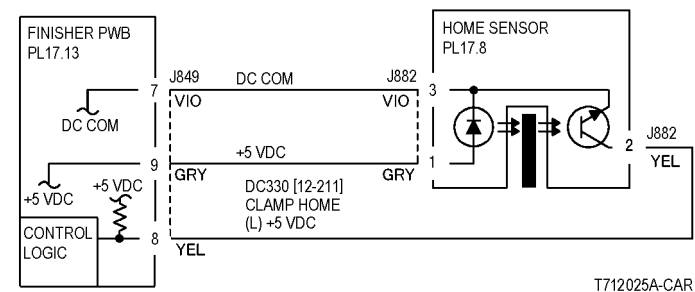
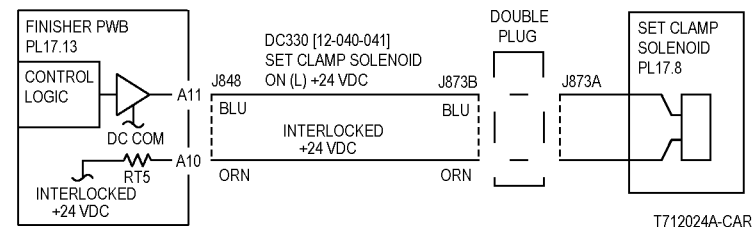
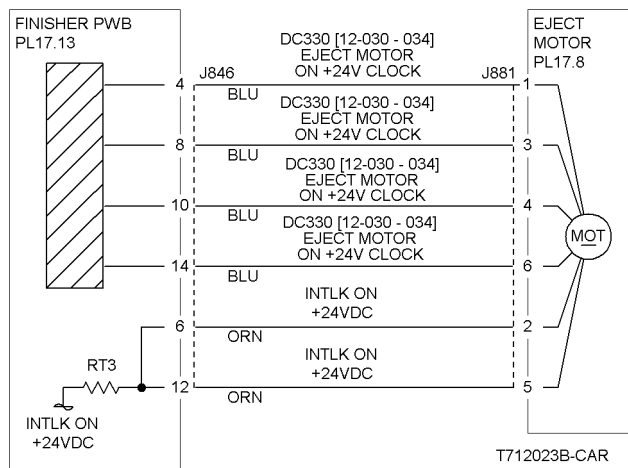

Figure 2 12-281 RAP Circuit Diagram - Set Clamp Home Sensor
Figure 3 12-281 RAP Circuit Diagram - Set Clamp Solenoid
Figure 4 12-281 RAP Circuit Diagram - Eject Motor
- Ensure that the connectors shown in the circuit diagrams (Figure 2, Figure 3, Figure 4) are securely connected and that the wires are not damaged.